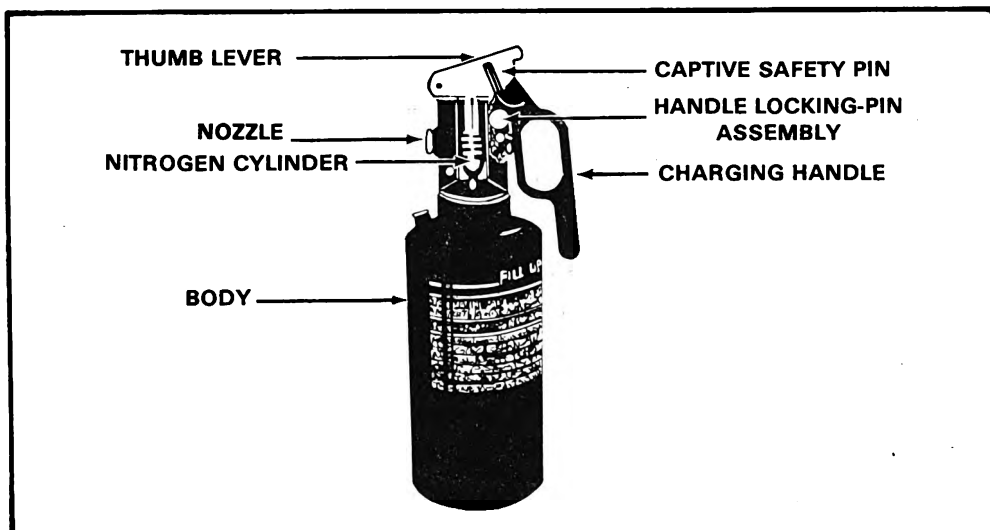

Figure 1.
1. The M11 decontamination apparatus (figure 1) has a 1½-quart capacity and normally holds 1-1/3 quarts of DS2 decontamination solution. It is normally mounted in wheeled and tracked vehicles, to be used to decontaminate surfaces which must be handled to operate the vehicle or allow it to perform its mission (e.g., laterals, steering wheel, driver's seat, combat door, hatches, etc.).